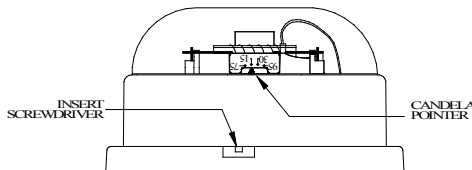

Figure 5
- To move selector switch, insert screwdriver into slot shown on the bottom side of the strobe. The setting is indicated by a pointer and can be seen on the bottom side of the lens. See Figure 5.
- Mount the speaker mounting plate to the backbox. Next slide the grille over the speaker mounting plate strobe and attach with (2) screws.